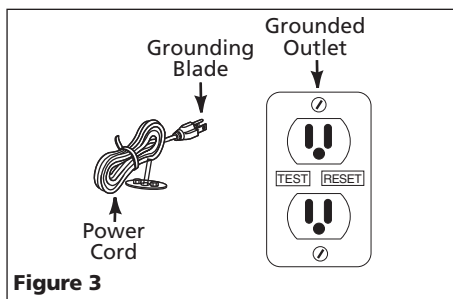

Figure 3
3. Insert the pump power cord plug directly into a GFCI protected 120 Volt outlet (See Fig. 3).